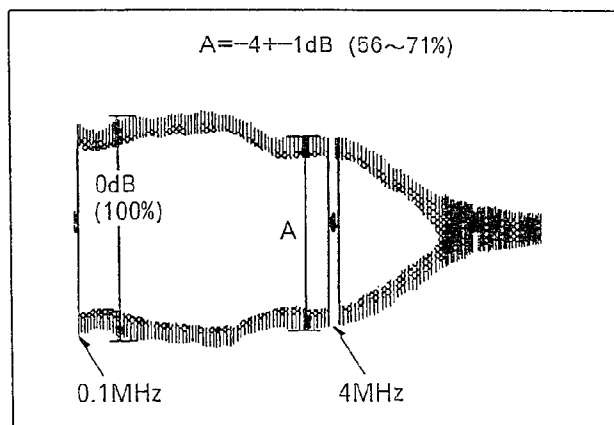

Fig. V15
7. Adjust VR5001 so that so that level at 4MHz is within spec. as shown in Fig. V15.